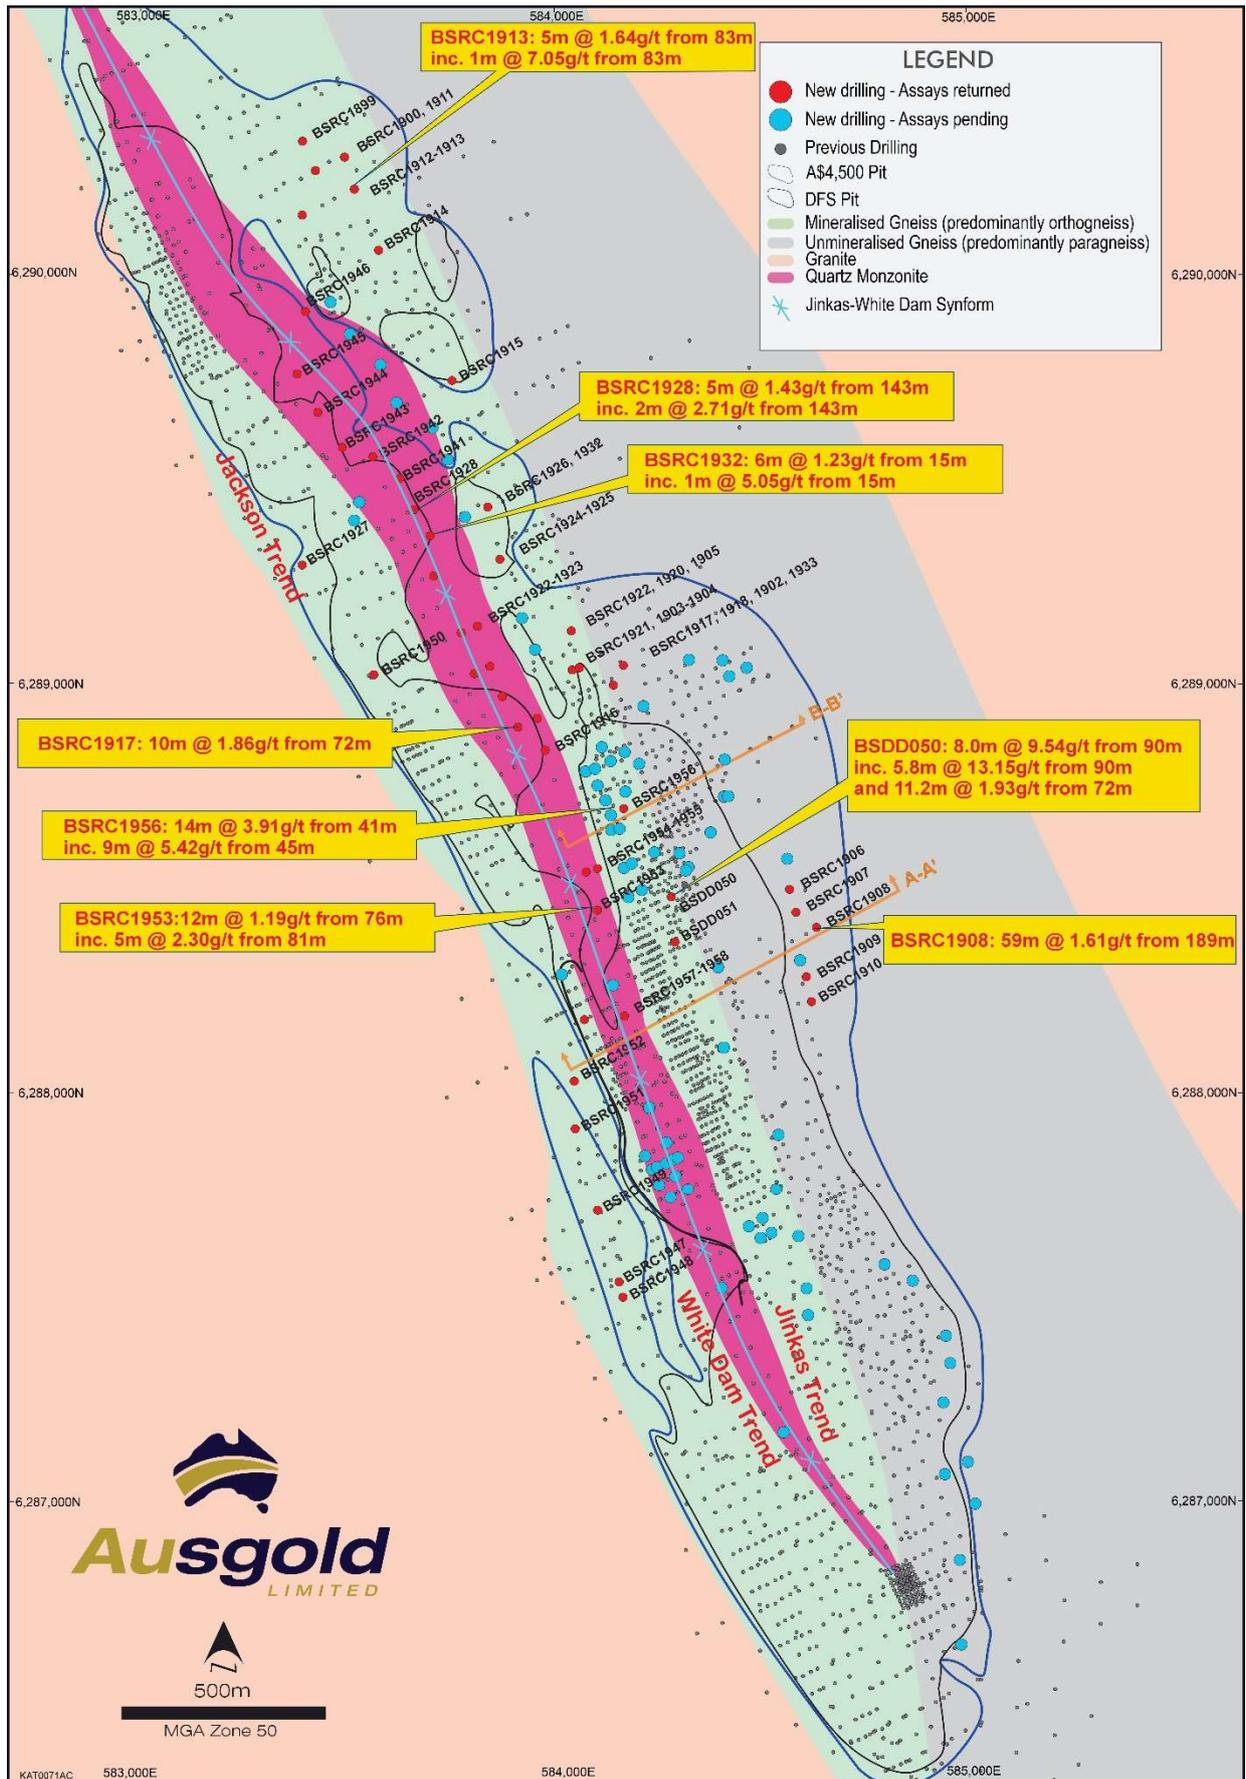

Figure 2 – Geological map of the central portion of the Central Zone displaying new drilling relative to the DFS and A\$4,500 pit outlines
Reverse Circulation (RC) drilling results reported in this announcement comprise 49 holes for 7,917m completed across the Central Zone, with drilling broadly evenly distributed between the Jinkas-White Dam system (including Olympia) and the footwall-hosted Jackson deposit (Figure 2).